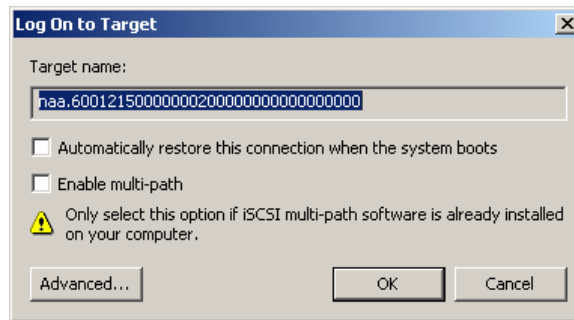

Figure 5-38. Log on to Target Dialog Box
- Click **Log On** to display the Log On To Target dialog box (see Figure 5-38).